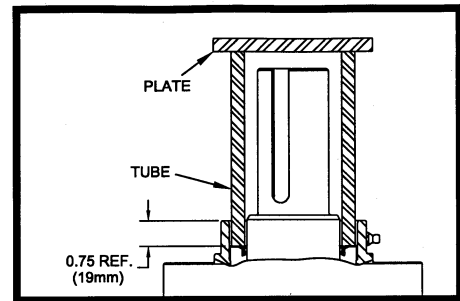

Figure 6.2.2.4 Final Installation of Inboard Seal
10. Carefully place the outboard seal over the shaft with garter spring side up. Reference Figure 6.2.2.5.